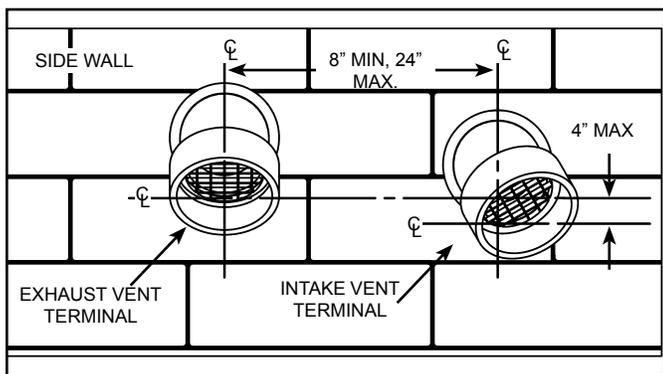

Figure 21
Important: When terminating the vent on a side wall, the following specifications pertaining to terminal location must be followed (see Figure 21).
4. To avoid exhaust recirculation, the air intake terminal may be rotated away from the exhaust vent terminal (see Figure 21).